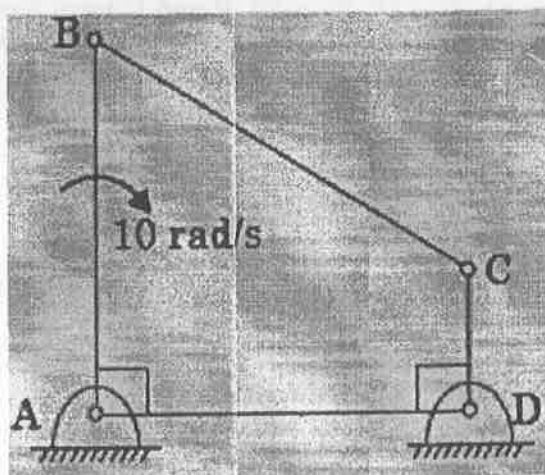

Figure 6
- (b) In a four-bar mechanism shown in Figure 6,  $AB = 5$  cm,  $AD = 4$  cm and  $DC = 2$  cm. In the configuration shown, both  $AB$  and  $DC$  are perpendicular to  $AD$ . The bar  $AB$  rotates with an angular velocity of 10 rad/sec. Find the linear acceleration of  $B$  and  $C$ , angular velocities and accelerations of links  $BC$  and  $CD$  at the given instant.